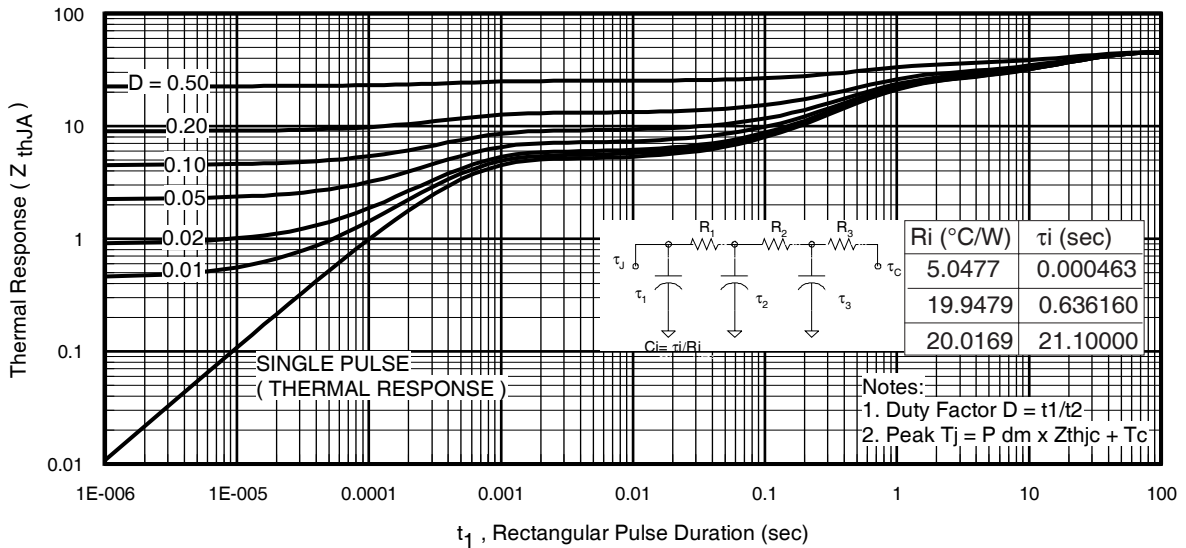

Fig 11. Maximum Effective Transient Thermal Impedance, Junction-to-Ambient
- ① Repetitive rating; pulse width limited by max. junction temperature. (See fig. 11).
- ② Limited by T_{Jmax} , starting $T_J = 25^\circ\text{C}$, $L = 2.8\text{mH}$
$Z_{thJC}(D, t_{av})$ = Transient thermal resistance, see figure 11)